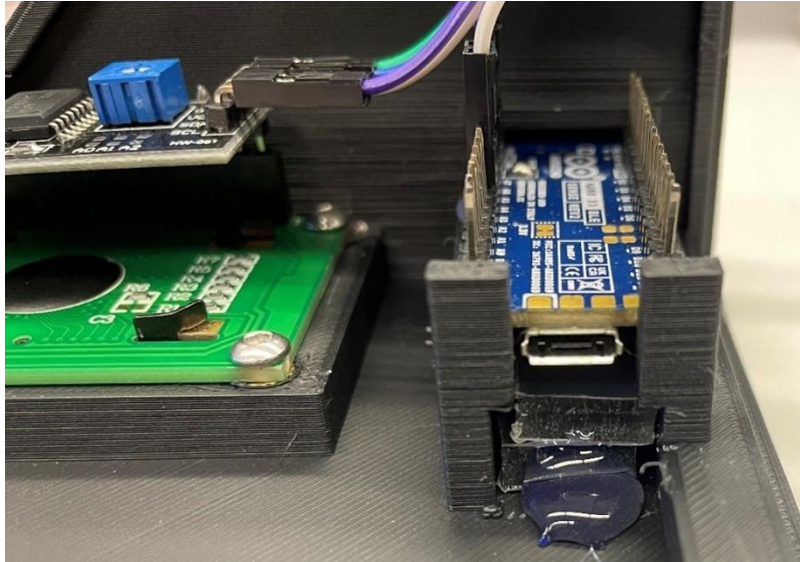

Figure 1.9- Arduino mounted in place.
- 8) The Arduino is secured in place as shown until the glue solidifies (Figure 1.9).